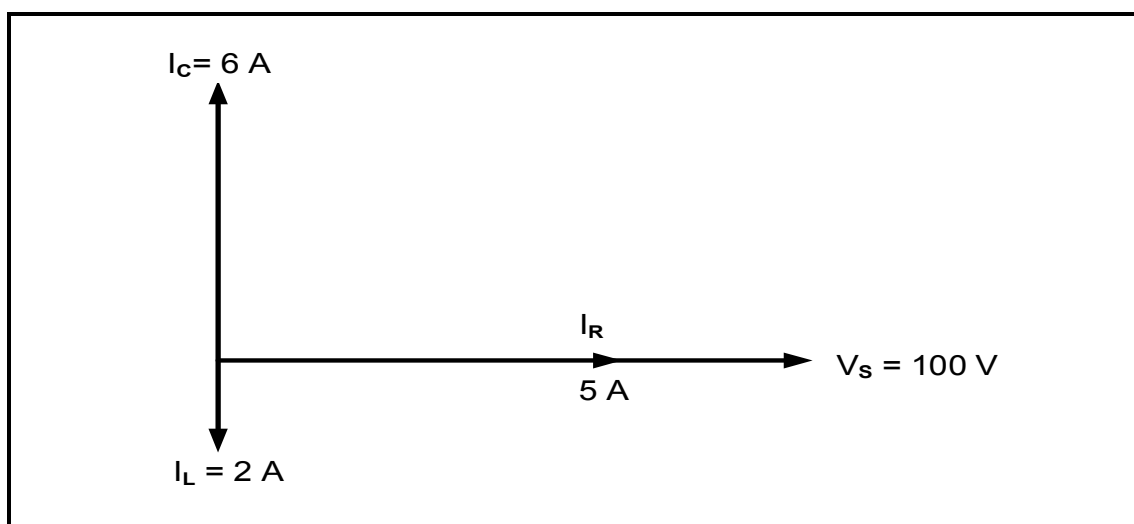

FIGURE 2.6: RLC PHASOR DIAGRAM
- 2.6 Refer to FIGURE 2.6 and answer the questions that follow.